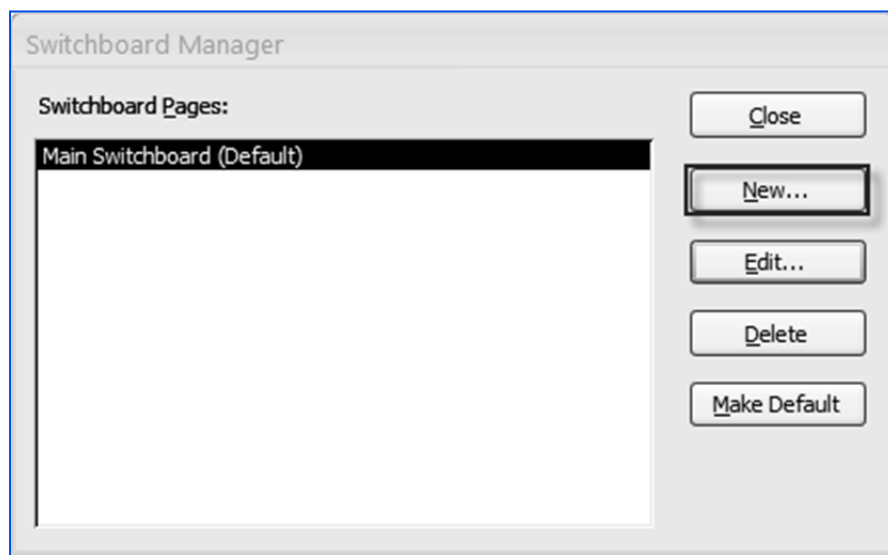

Fig. 4.3.5: Switchboard Manager Dialog box
1. The *Switchboard Manager* Dialog box appears. Click *New* to create a *Switchboard*. *Switchboard Manager* is displayed as in Fig. 4.3.5.